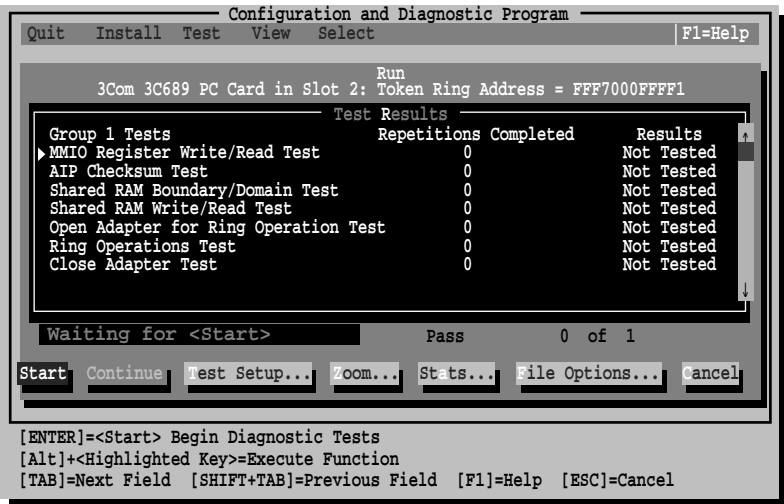

Figure 6-4 Run Tests Dialog Box
The Run Tests dialog box appears, as shown in Figure 6-4.
- 1 Choose the <Test Setup> command button in the Run Tests dialog box shown in Figure 6-4.
If any test fails, you can get additional information by highlighting the test that failed in the Run Tests dialog box shown in Figure 6-4, and pressing [Enter]. You can also highlight the <Zoom> command button and press [Enter]. The program notifies you of the error and suggests actions you can take to solve the problem.